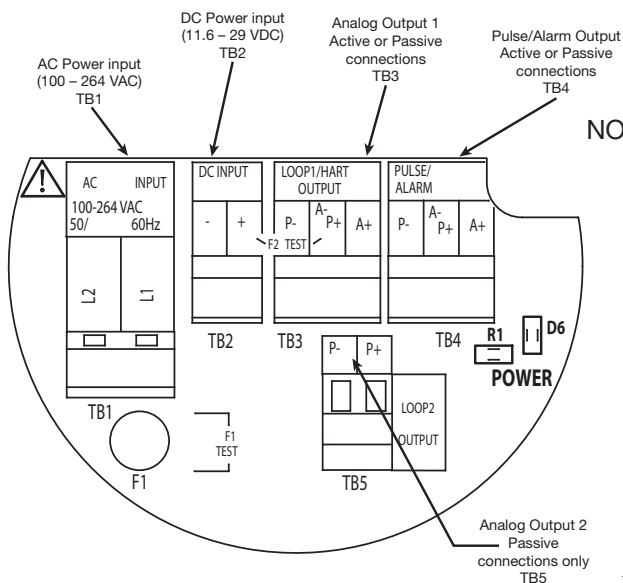

Figure 8
The instrument has separate wiring connections for AC (100 to 260 VAC) and DC (11.6 to 30 VDC). AC power wiring connections are made to terminal block TB1. DC Connections are made to terminal block TB2. Refer to Figure 8.
4. Connect power leads to proper terminals. Refer to Figure 8.
Active Connection—Use the active connection when the TA2 is providing power for the 4-20 mA signal. Use connections A- and A+ (see figure 8). The active connection will drive a 1000-ohm loop resistance.
Passive Connection—Use the passive connection when an external power supply or the control system is used to power the 4-20 mA loop. Use connections P- and P+ (see figure 8). The resistance is dependent upon the customer-supplied power supply.
Pulse/alarm output—Use the active connection when the TA2 is providing power for the pulse/alarm output. Use connections A- and A+ on TB4 (see figure 8).